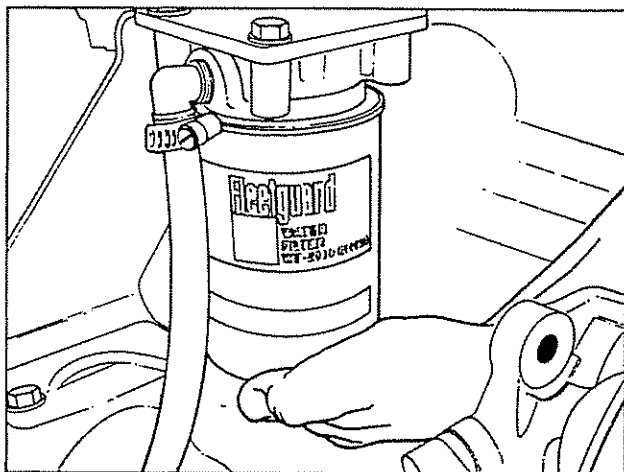

Fig. 2-23 (OM 10236). Installing DCA water filter cartridge
4. Install a new element, tighten until the seal touches the filter head. Tighten an additional one-half to three-fourths turn. Fig. 2-23. Open the shut-off valves.